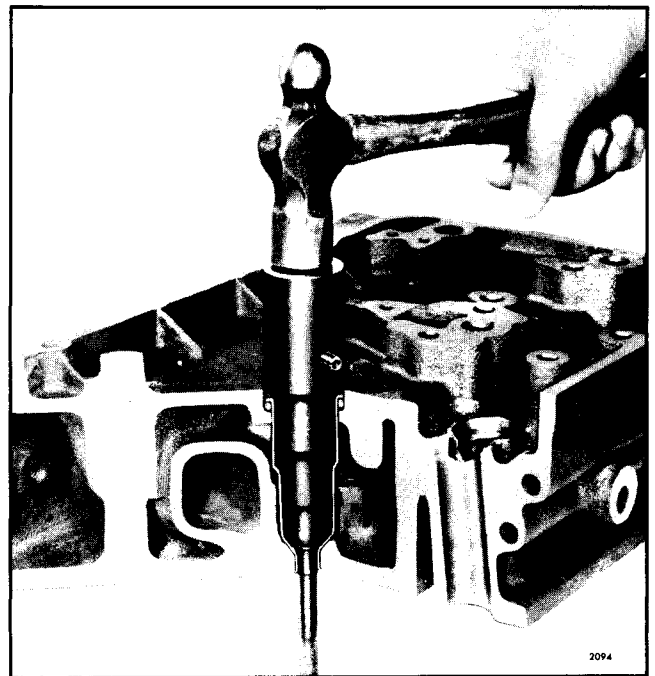

Fig. 2 - Installing Injector Tube using Tools J 5286-4A and J 5286-5
2. Place the installer J 5286-4A in the injector tube. Then, insert the pilot J 5286-5 through the small opening of the injector tube and thread it into the tapped end of the installer (Fig. 2).
3. Slip the injector tube into the injector bore and drive it in place (Fig. 2). Sealing is accomplished between the head counterbore (inside diameter) and outside diameter of the injector tube. The tube flange is merely used to retain the seal ring.